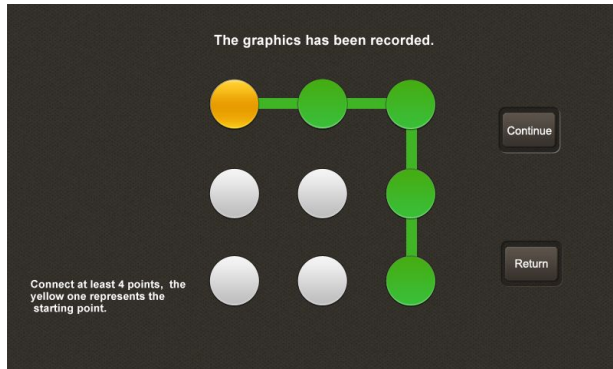

Figure 2-15
2. Hold any point in 9 points in screen and slide connecting 4 or more than 4 points, then release, the system automatically records the lock pattern, as shown in Figure 2-15, yellow dots represent the starting point,